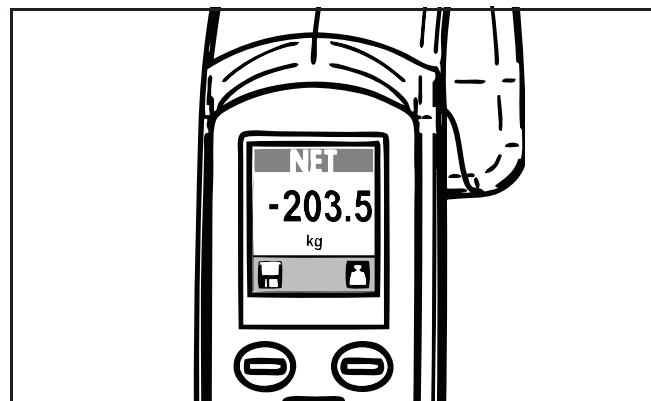

Fig. 60
- 2) If the sling has already been installed on the spreader bar at start-up, the MAXI MOVE has already zeroed automatically and taken the weight of the sling into account (see Fig. 60).